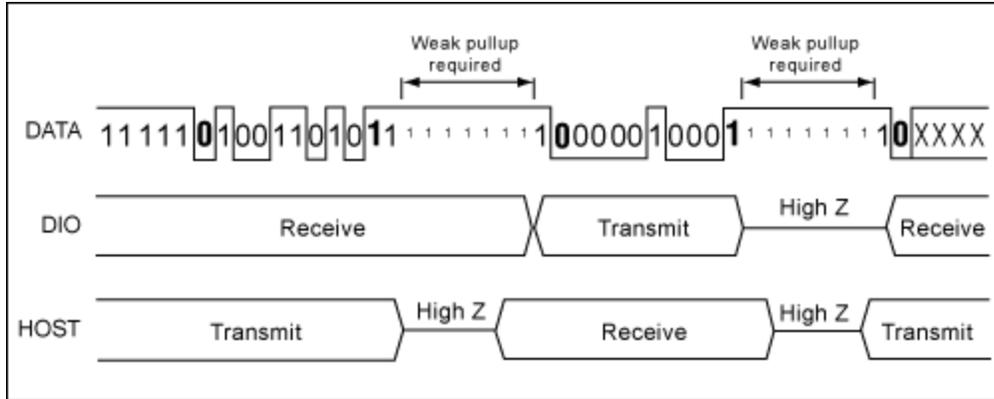

Figure 1. DIO output data format.
**Figure 1** shows an example transmit/receive sequence with the RdIRS command (59 hex) being sent and the MAX1452 responding with a byte value of 10 hex.